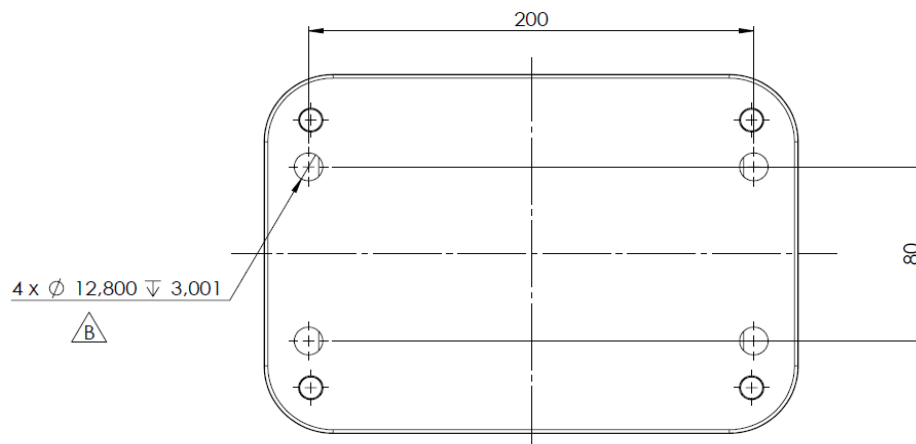

Figure 14. Mounting bracket dimensions.
10. As every wheelchair is unique there is not a general mounting bracket available. The dimensions in Figure 14, must be respected to mount the Electronics Control Unit. Use four M6 screws through the blind nuts to fixate the Electronics Control Unit. CoMoveIT offers specific mounting brackets for Permobil and Ottobock wheelchairs. The mounting cracket must be purchased separately from your device.